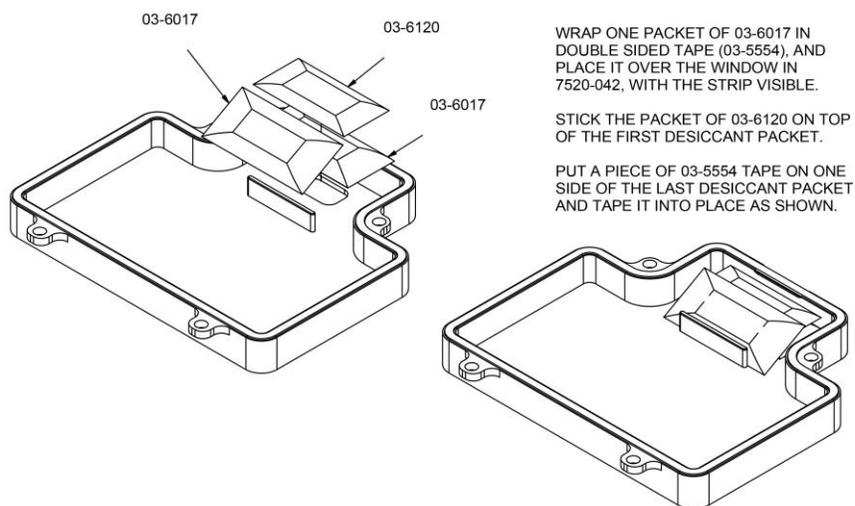

Figure 5-4. Electrometer Desiccant.
- (1) Placing the pink desiccant in an Erlenmeyer flask in a microwave oven on the high setting for a maximum of 20 seconds. Then allow to cool for a minimum of 60 seconds.
- (2) If water vapor is apparent, wipe off the water and heat for 20 seconds. Repeat these steps until no water vapor is seen.
- b. Once the desiccant is replaced or rejuvenated, replace the electrometer lid using the four screws. See Figure 5-4.